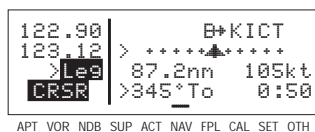

Figure 5-39
2. Turn the right inner knob counter clockwise until the cursor is over the navigation mode. In this case, the current mode is **Leg** (figure 5-39).